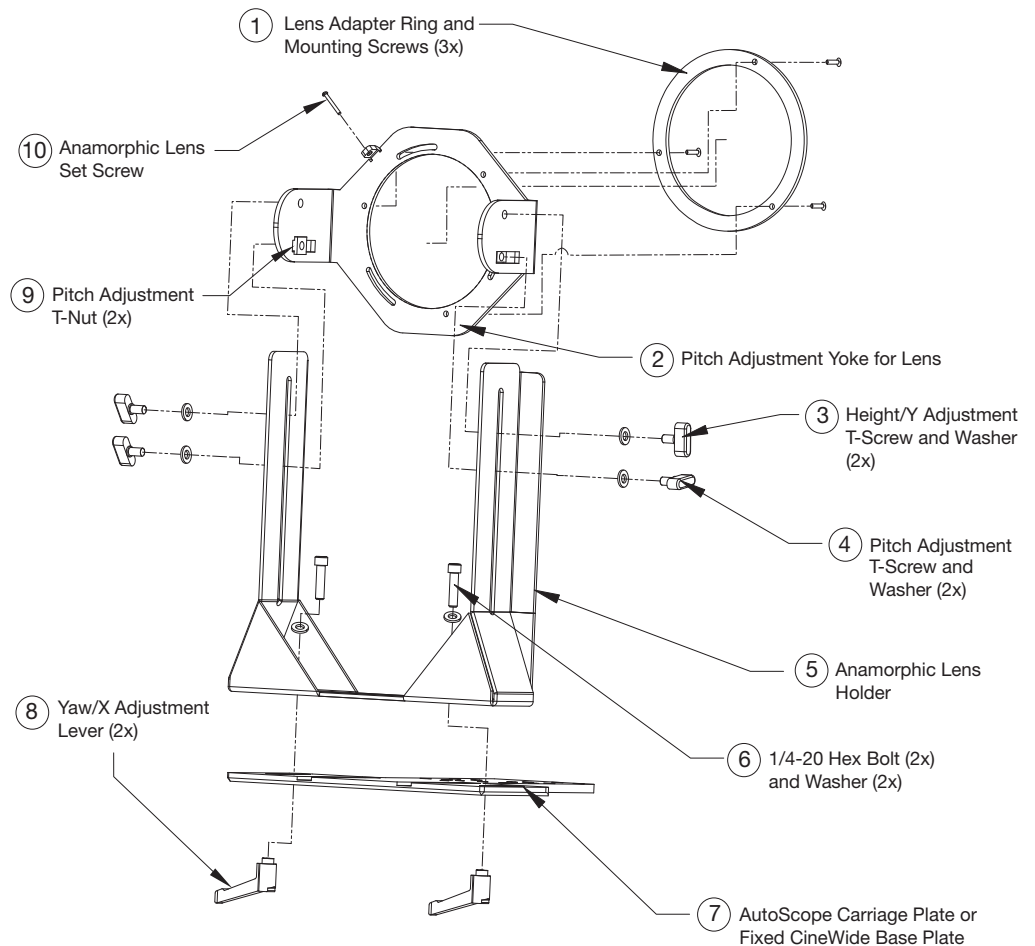

**Figure 3-19. Vision 120 Anamorphic Lens Mounting Assembly - Exploded View**
The Vision 120 Anamorphic lens mount kit consists of everything shown in Figure 3-19. Some components shipped with your projector may differ slightly from what is shown in these instructions. If any items are missing or damaged, please contact your Vidikron dealer or Vidikron Customer Service at (888) 4VIDIKRON.